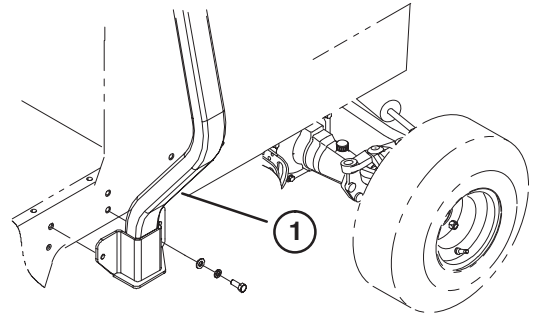

Figure 13
3. Secure each side of roll bar to frame with (3) 1/2 x 1-1/4" lg. capscrews, 1/2" flatwashers and 1/2" lockwashers (Fig. 13).